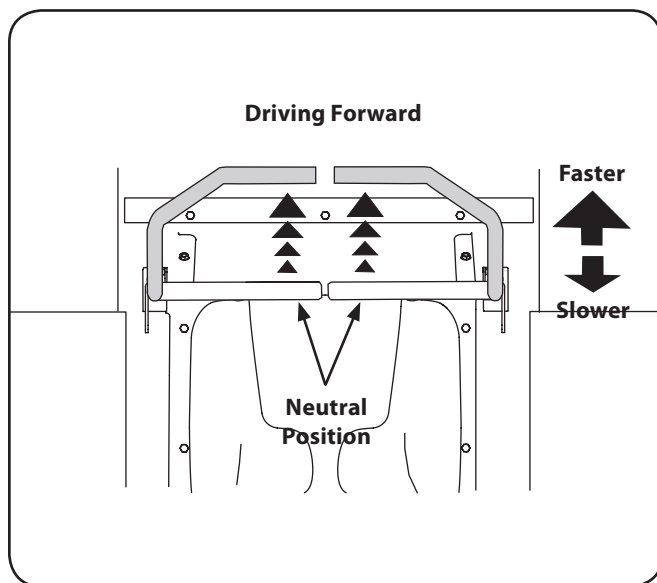

Figure 5-2
- Slowly and evenly move both drive control levers forward. The tractor will start to move forward. See Figure 5-2.